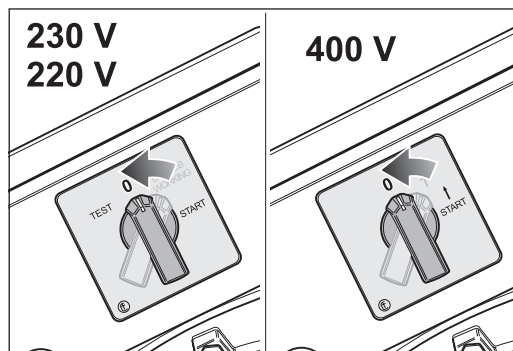

Fig. 30 To switch off the machine turn the switch button to position -0-.
- 2 Turn the switch button to position -0- (Fig. 30).